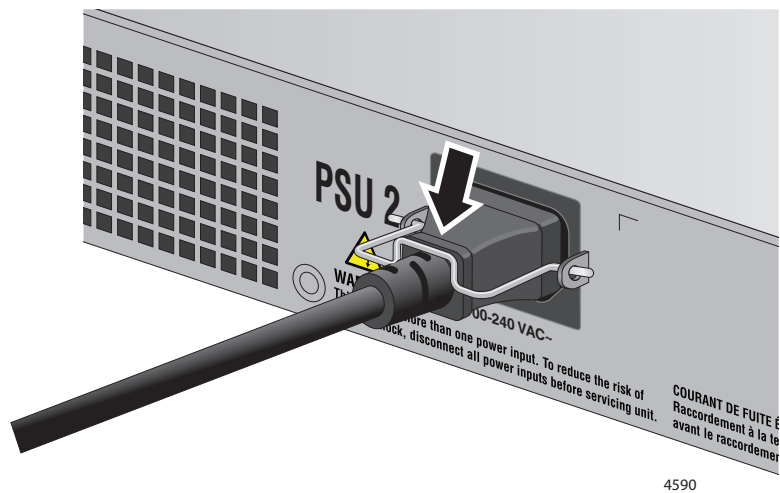

Figure 32. Lowering the Power Cord Retaining Clips
3. Lower the power cord retaining clips to secure the cords to the switch. Refer to Figure 32.